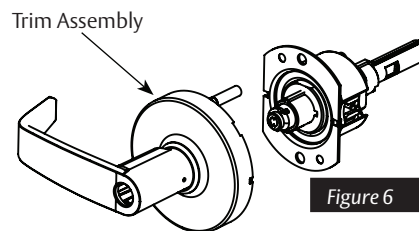

Figure 6
1. Remove trim assembly from the lockbody. (See Figure 6).